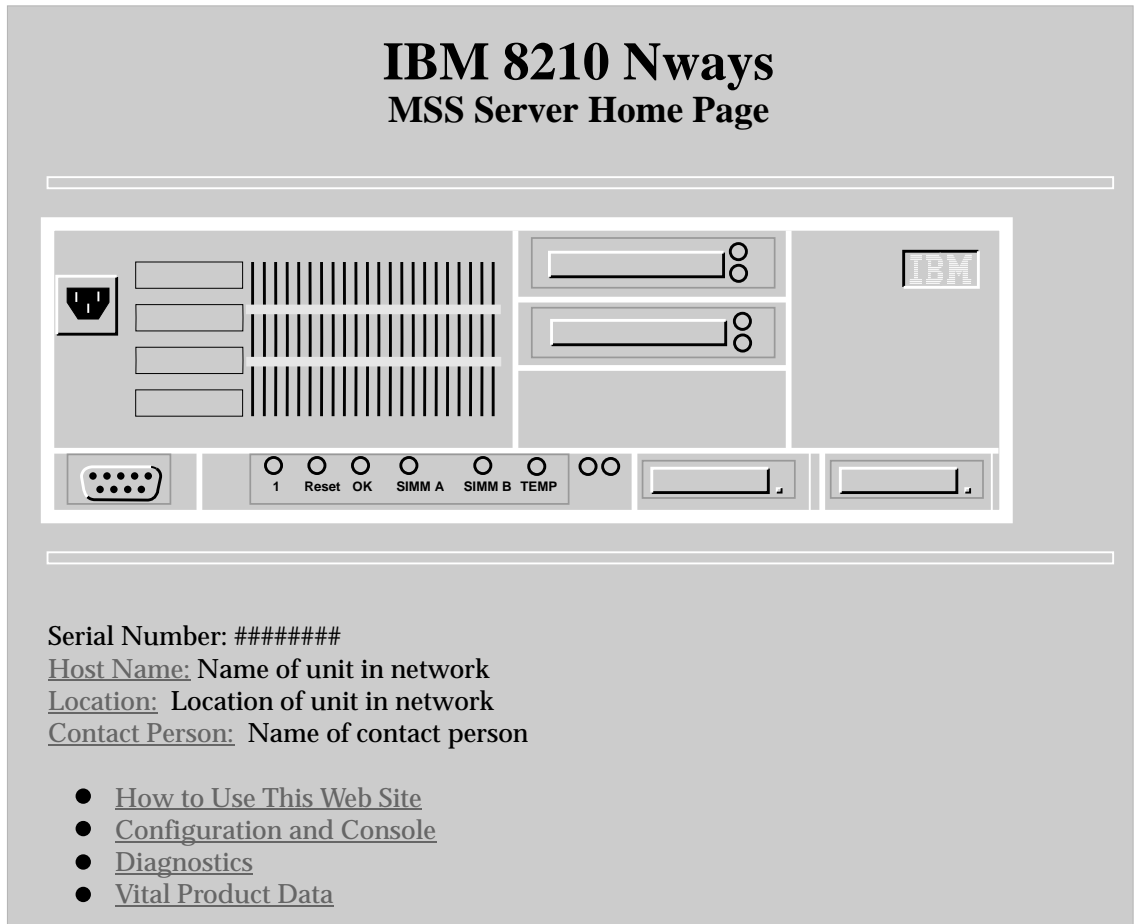

Figure 3-1. MSS Server Home Page
- 2** Open your web browser and give it the SLIP address of the MSS Server. The MSS Server Home Page will appear (Figure 3-1 on page 3-2).